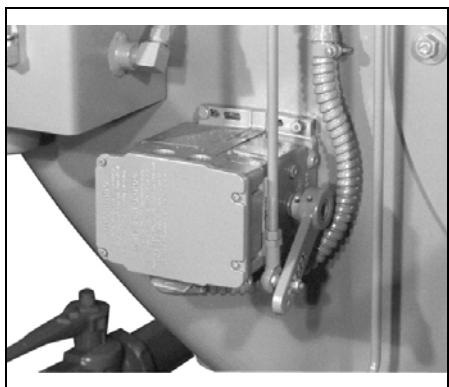

Figure 2-5 Mod Motor
1. Forced Draft Fan Motor (Figure 2-5): Drives the forced draft fan directly to provide combustion air. Also referred to as a blower motor.